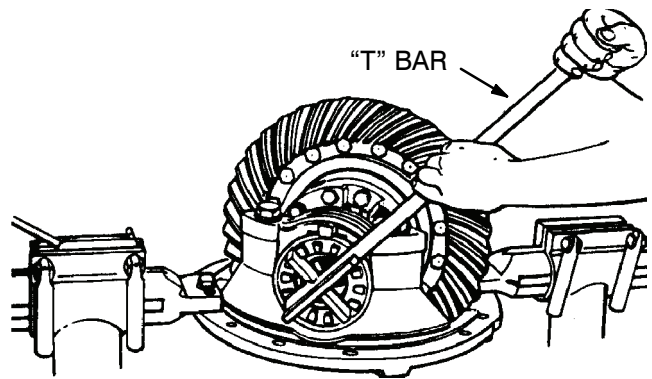

Figure 30. Adjusting Rings.
- (4) Use a "T" – bar wrench or equivalent tool to loosen the adjusting rings. **DO NOT REMOVE THE ADJUSTING RINGS.** If necessary, loosen but do not remove the capscrews on the bearing caps to move the adjusting rings. Figure 30.